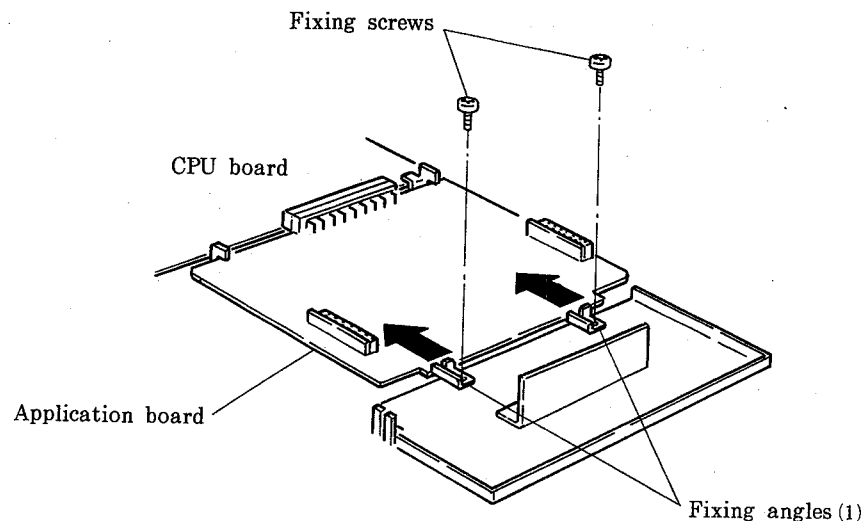

Fig.22
- b) Connect the connectors of the two boards, and push the fixing angles (1) in the direction of arrows to assure connection. (See Fig.22.)
- c) Fix the fixing angles (1) with the fixing screws (2 pcs.). (See Fig.22 above.)